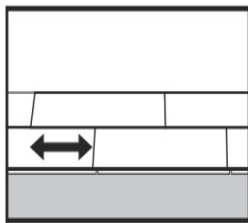

Figure 1.
5. **First and last plank length should not be less than 300 mm. Short end joins on parallel planks should be at least 300 mm in distance from the adjoining plank, Figure 1.** Plan the layout of plank lengths and visual aspects prior to final fix. This will assist in providing a balanced blend of grade, colour and joint alignment.